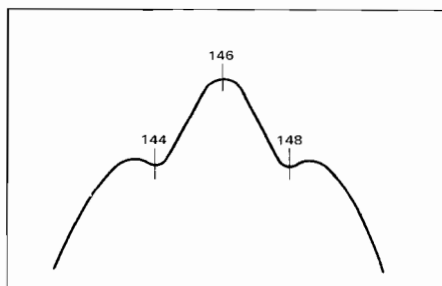

Fig. 14 Helical Output Waveform
- (1) Ground TP2 and terminal LE of the VCO unit (X50-1370-10).
- (2) Connect the detector for helical adjustment to TP1 of the RX unit.
- (3) Looking at the waveform appearing on the oscilloscope, make adjustment in the following way. Adjust L1 and L2 (3 piston trimmers) alternately so that the markers appear as shown Fig. 14.